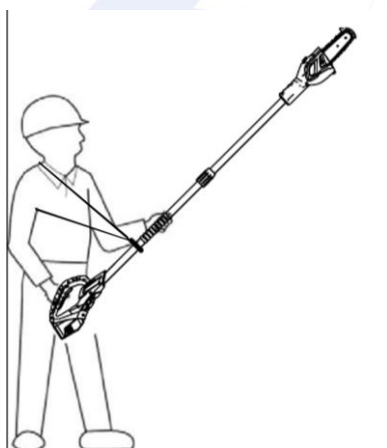

Fig.11
3. Use both hands to grip pole saw. Use designated grip areas and strap when operating pole saw. **(See Fig.11)** Use firm grip. Thumbs and fingers must wrap around pole saw handle and pole.